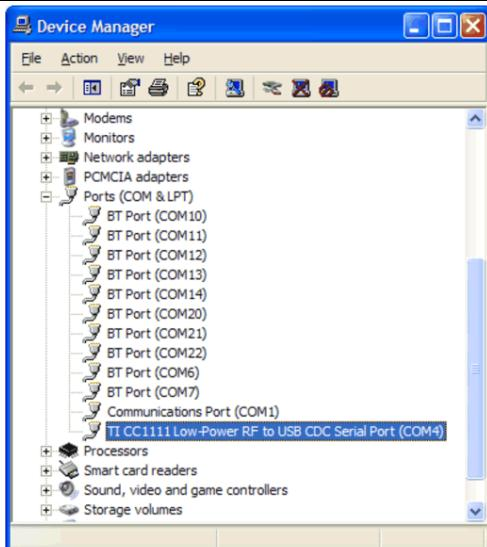

Figure 8. Access Point in Windows Device Manager for eZ430-Chronos With Black PCB
8. The Windows Device Manager lists the device *TI CC1111 Low-Power RF to USB CDC Serial Port (COMx)* or *eZ430-ChronosAP (COMx)* in Ports (COM & LPT) (see Figure 8).